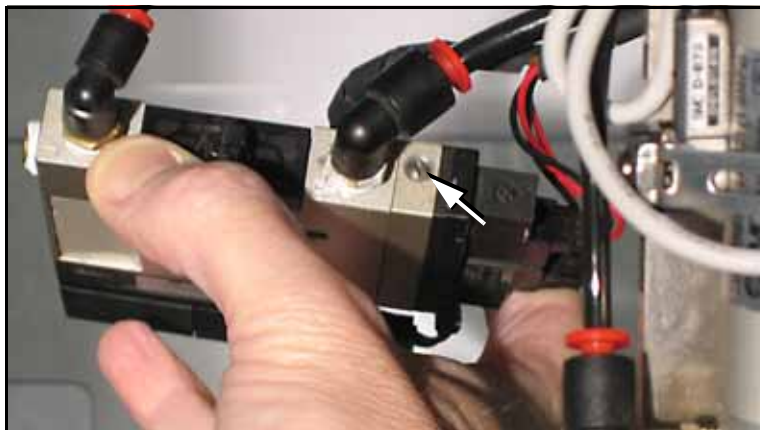

Figure 4-10: The Blow-off adjustment screw on PNP head vacuum generator.
- 2a. On top of the vacuum generator, locate the blow-off adjustment screw above the valve coils (where the wires plug in). See Figure 4-10. The vacuum generator block at the main PNP head will need to be removed for access.